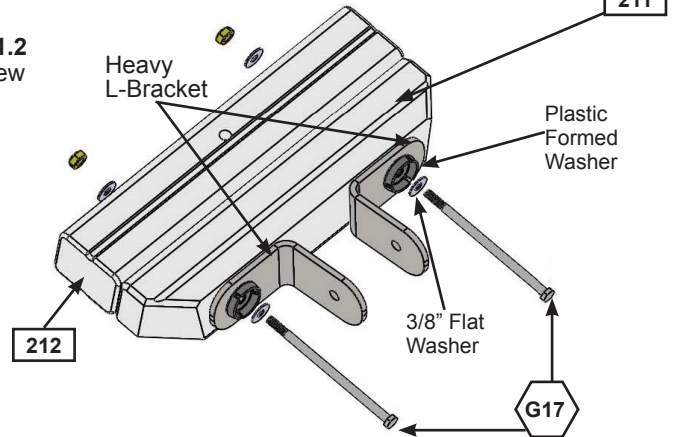

Fig. 21.4
C: Place (211) SW Block Angle and (212) Block SW assembly in between 2 (213) SW Post (Heavy L-Brackets towards the outside). Place 1 Heavy C-Bracket on the top (213) SW Post and attach with (G26) 3/8 x 9-1/4" Hex Bolt (with 2 flat washers and 1 lock nut), as shown in fig. 21.4